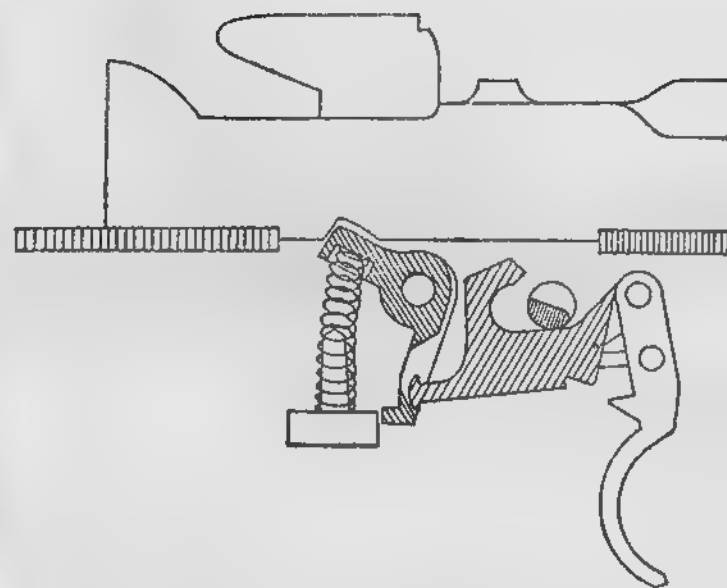

Fig 30.—The trigger released, after the change lever has been moved from "S" to "A" with the trigger pressed
- (b) If you move the change lever from "S" to "A" while the trigger is still pressed, its stem presses down the tail of the tripping lever; when you release the trigger, the lower hook cannot engage in the window of the sear, nor move the sear when you press the trigger again (see Fig 30); but if you then release the trigger, and move the change lever back to "S", the tripping lever can rise, and the plunger and spring push it back until it engages in the window of the sear.